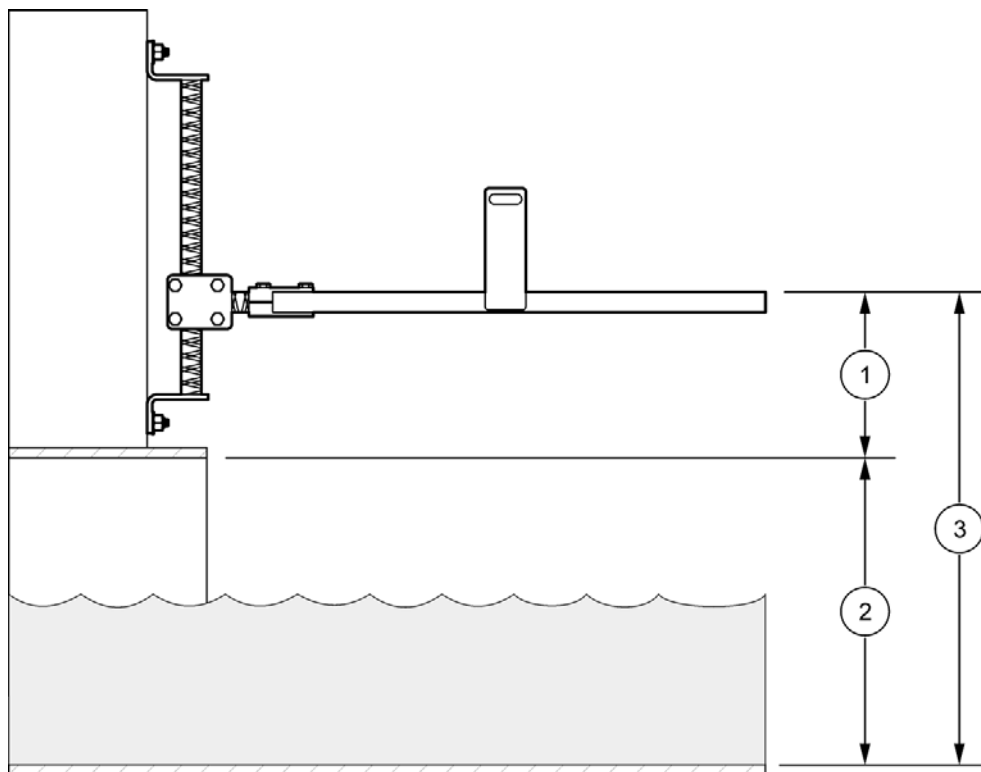

Figure 16 Sensor offset
1. Put the rod in the bottom of the pipe or channel and align it vertically with the frame (Figure 16).
**Note:** If it is not practical to measure to the bottom of the pipe, measure the distance from the crown of the pipe to the top of the frame (Figure 16). Add this distance to the pipe diameter to get the sensor offset (sensor offset = pipe diameter + distance from crown of the pipe to top of frame).